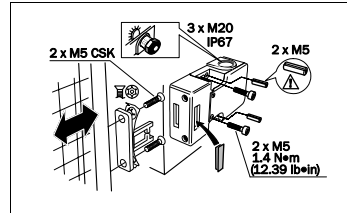

Fig. 1: Mounting safety switch
- Tighten the safety switch using 2 × M5 screws to 1.4 Nm (see Fig. 1).